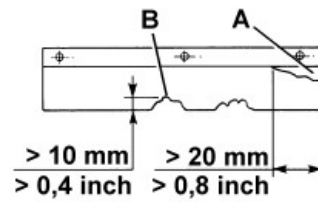

Figure 13
1. Unscrew the knobs (23 and 21) and remove both left (20) and right doors (22).
2. Check the side skirts (13 and 14) for integrity. Replace the skirts when they have cuts (A, Fig. 13) larger than 20 mm or cracks (B) larger than 10 mm (for skirt replacement, refer to the Service Manual).
2. Check the front (15) and rear skirts (16) for integrity. Replace the skirts when they have cuts (A, Fig. 13) larger than 20 mm or cracks (B) larger than 10 mm (for skirt replacement, refer to the Service Manual).